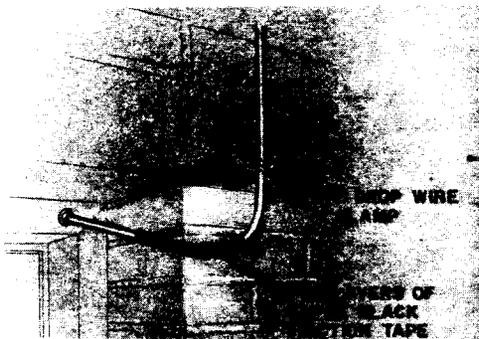

Fig. 31 — Last Attachment, Building Entrance Slopes Upward From Outside
13.01 The last attachment (Fig. 31 and 32) should be located within 18 inches of the building entrance hole.